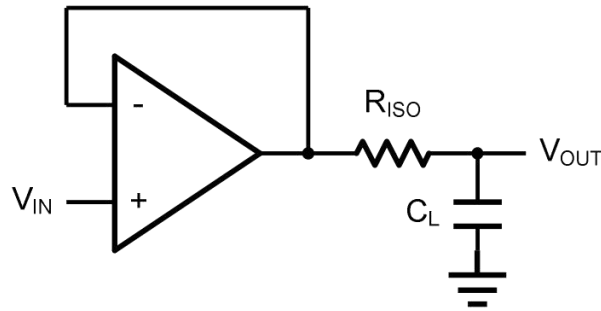
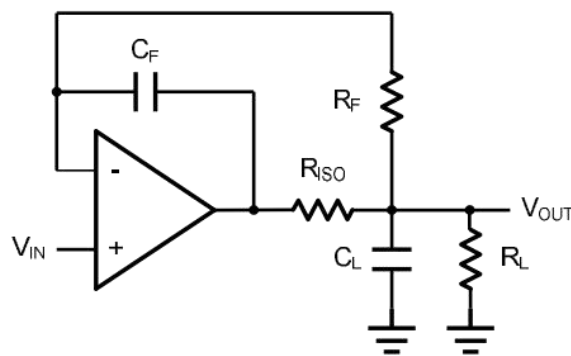

Figure 2. Indirectly Driving a Capacitive Load Using Isolation Resistor
Figure 3. Indirectly Driving a Capacitive Load with DC Accuracy
The OPA314/2314/4314 family is optimized for bandwidth and speed, not for driving capacitive loads. Output capacitance will create a pole in the amplifier's feedback path, leading to excessive peaking and potential oscillation. If dealing with load capacitance is a requirement of the application, the two strategies to consider are (1) using a small resistor in series with the amplifier's output and the load capacitance and (2) reducing the bandwidth of the amplifier's feedback loop by increasing the overall noise gain. Figure 2. shows a unity gain follower using the series resistor strategy. The resistor isolates the output from the capacitance and, more importantly, creates a zero in the feedback path that compensates for the pole created by the output capacitance.
The circuit in Figure 3 is an improvement to the one in Figure 2. R_F provides the DC accuracy by feed-forward the V_{IN} to R_L . C_F and R_{ISO} serve to counteract the loss of phase margin by feeding the high frequency component of the output signal back to the amplifier's inverting input, thereby preserving the phase margin in the overall feedback loop. Capacitive drive can be increased by increasing the value of C_F . This in turn will slow down the pulse response.